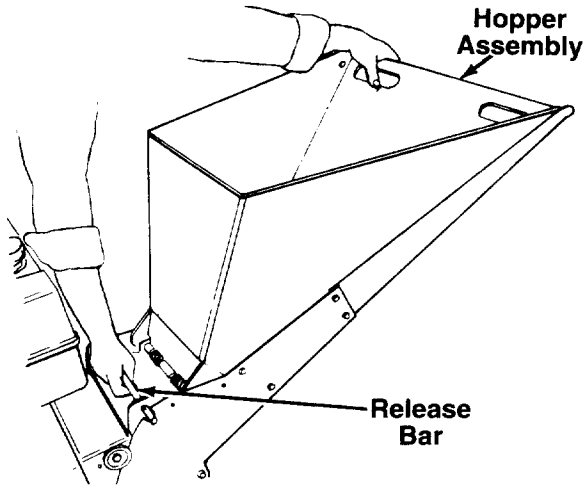

FIGURE 10.
- To lower the hopper assembly, use one hand to grasp the handle at the top of the hopper assembly and lift slightly. Pull up on the release bar, and lower the hopper assembly to the ground. Release the bar. See figure 10.